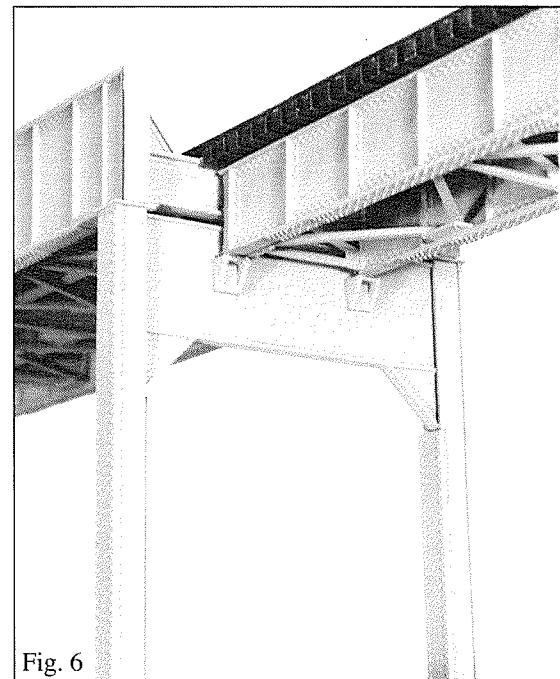

Fig. 6
1. Place two **leg halves** (11) on edge and cement together at the two spacers. Repeat with two more **leg halves**. Insert one end of a **cross-girder** (12) halfway into the first leg assembly and cement it to the spacers and the edges of the legs. Cement the opposite end of the **cross-girder** into the second leg assembly. Be sure the **cross-girder** is square to the leg assemblies (see fig. 6).
2. You have your choice of finishing the legs with **leg cross-lacing** (13) or more modern looking **leg rivet plates** (14). Cement the short **leg cross-lacings** (or **leg rivet plates**) to the inside of the leg assemblies and the long **leg cross-lacings** to the outside of the leg assemblies. Be sure the cross-lacing is flat and seated properly on the leg edges.
3. Cement a **bearing plate** (15) to the top and bottom of each leg. The bridge support is now complete. Fabricate the other bridge support. If building the 160' bridge, fabricate two more bridge supports.
1. Place a deck girder assembly against the end of a thru girder assembly, centered side to side, with the top of the **girders** flush with the top of the **crossbeam**. With a scribe mark the location of the bottom edge of both **girders** on the face of the bridge support. Cement a **girder support** (16) at each marked location so they will be centered on the bottom edge of the **girders** and will support the deck girder span at the correct height (see fig. 6). Repeat at the other end of the thru girder span(s).
3. Cement a **bridge shoe** (17) to the bottom of each girder at one end of the deck girder spans. You may want to assemble the remainder of the bridge on your layout or you can assemble the entire bridge before placing it on the layout using the bridge track to support the two end spans. Whichever method you use, one end of the deck girder spans will be cemented to the girder supports, while the other end (the end with the **bridge shoes**) will be cemented to bridge abutments on your layout. Use a straight edge to be sure the top surface of the spans are in good vertical alignment. The bridge support legs should be cemented to bridge piers or some sort of footing.